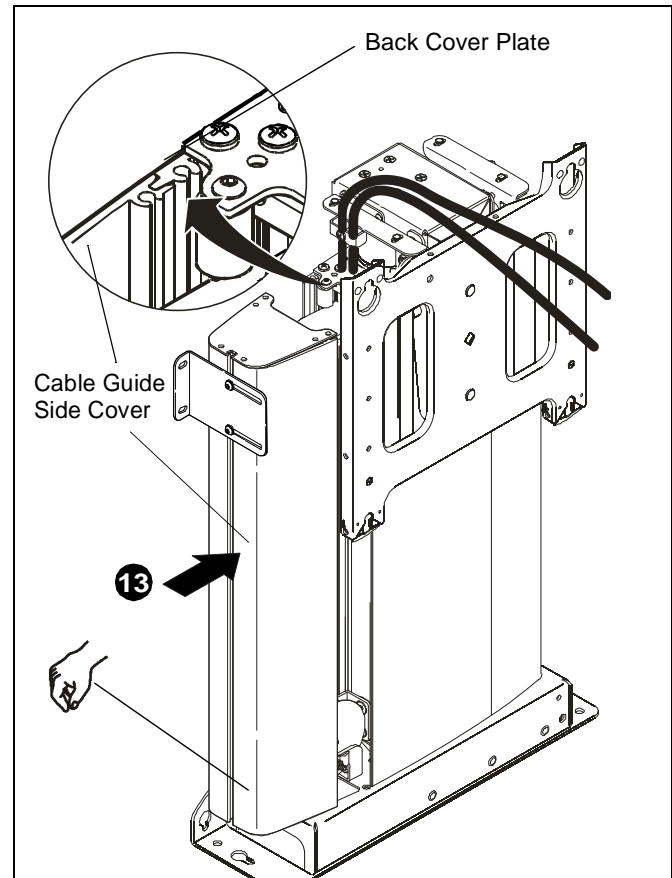

Figure 21
13. Slide cable guide side cover over cable guide making certain lip on back cover plate is fully seated in groove in cable guide side cover. (See figure 21)